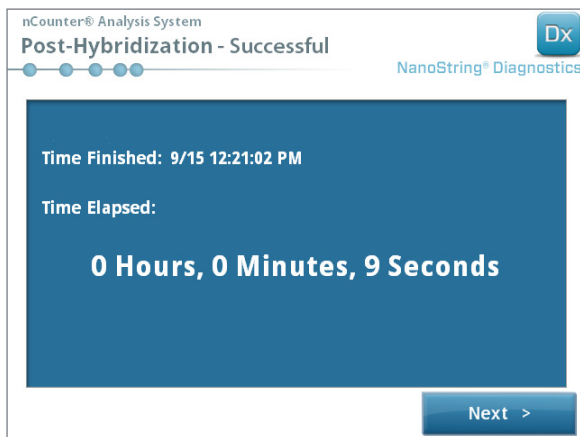

FIGURE 5.28: The System Processing Complete screen
17. When the sample processing is finished, a blue screen will appear and the timer will start to count up from when the run was completed (**FIGURE 5.28**). Touch **Next**.